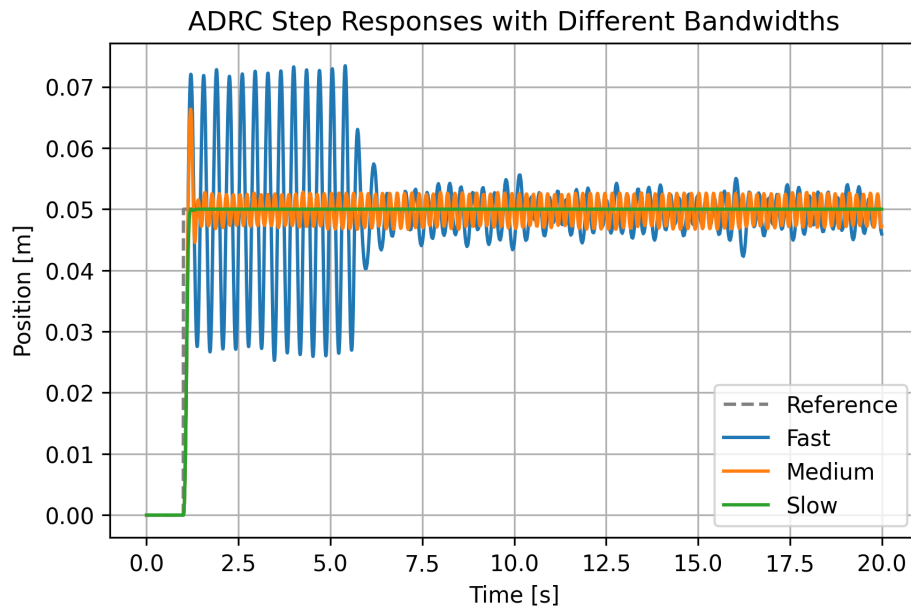

Figure 10.1: ADRC step responses for multiple bandwidth selections.
2. Analyse Figure 10.1 to see how bandwidth choice affects transient metrics.
- **Practice:** run `python -m scripts.tutorials adrc` and vary  $(\omega_c, \omega_0)$  to observe trade-offs in Figures 10.1–10.3.